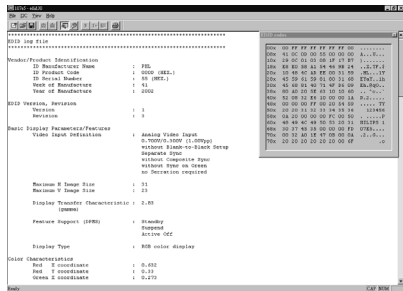

Fig. 13
- 4. Click  icon (Read EDID function) to read DDC EDID data from monitor. The EDID codes will display on screen as shown in Fig. 13.